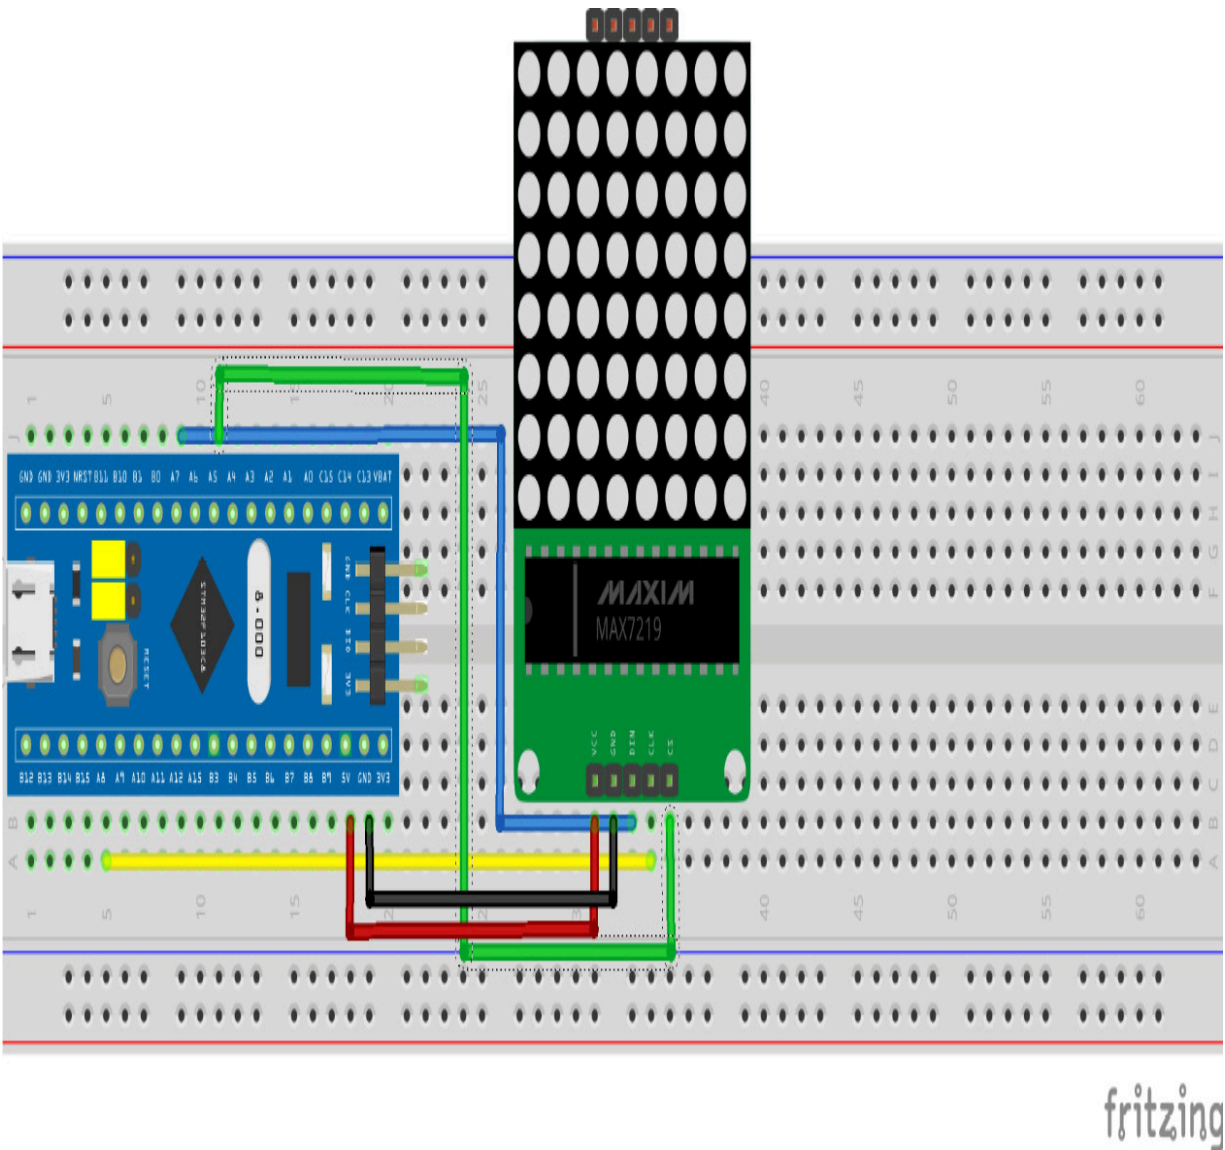

Figure 8.16 – LED matrix 8x8 breakout module interfacing to the STM32 Blue Pill
*Figure 8.16* shows how to connect the MAX7219 8x8 LED matrix module to our STM32 Blue Pill board: